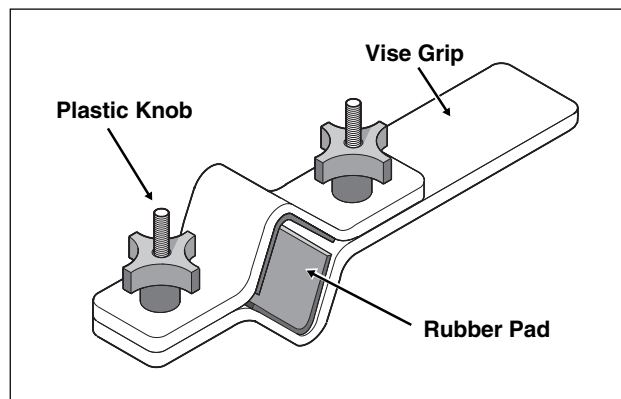

Figure 2-71. Fork Tube Holder (HD-41177)
2. Obtain the FORK TUBE HOLDER (HD-41177). See Figure 2-71. Proceed as follows:
3. Obtain the FORK TUBE HOLDER (HD-41177). See Figure 2-71. Proceed as follows: